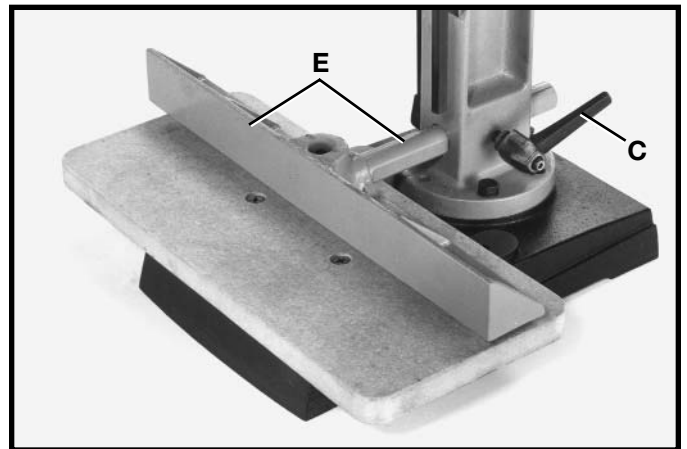

Fig. 11
5. Insert bar of fence assembly (E) Fig. 11, through hole in column as shown. Tighten handle (C) against flat on fence bar to hold fence in position. **NOTE:** Handle (C) is spring-loaded and can be repositioned on the stud located underneath the handle by pulling out the handle and repositioning it on the stud.